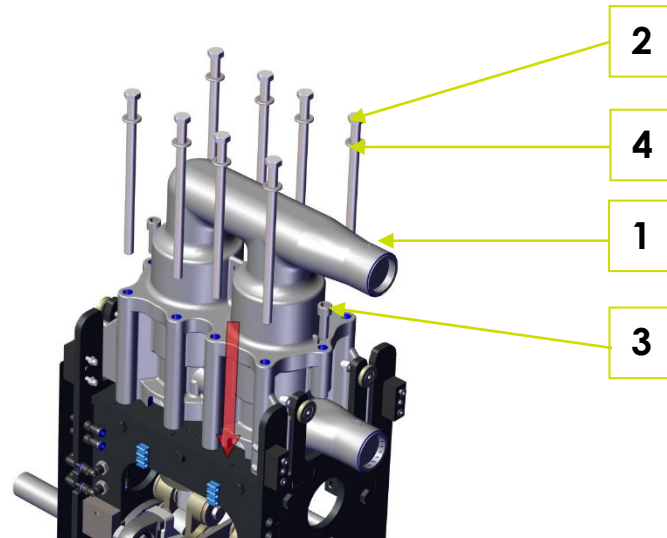
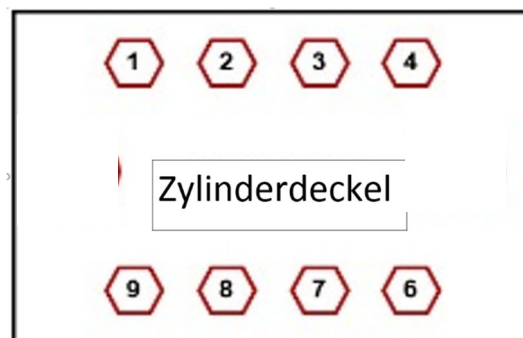

Fig. 5-3: Mounting the cylinder cover
Fig. 5-4: Numbering of the fillister head screws
1. Clean the cylinder cover (1) and fit it back on the cylinder block (Fig. 5-3: Mounting the cylinder cover).
2. Align the cylinder cover and hand-tighten the two fillister head screws (3) greased with assembly grease (Renolit Unitemp 2).
3. Apply product-strength threadlocker (Weicon Lock AN302-43) to all eight hexagon screws (2) with washers (4) and tighten hand tight.
4. Lower the cylinder cover parallel position and tighten all screws to a torque of 60 Nm in the sequence 2-7-3-8-1-6-9-4-10-5 (Fig. 5-4: Numbering of the fillister head screws).